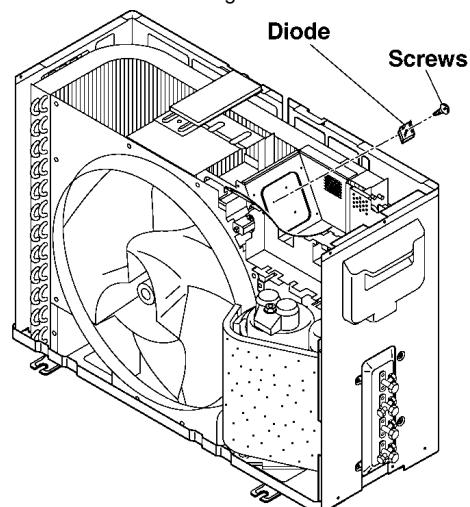

Fig. 27
8. Remove the diode. (One screw) (Fig.27)